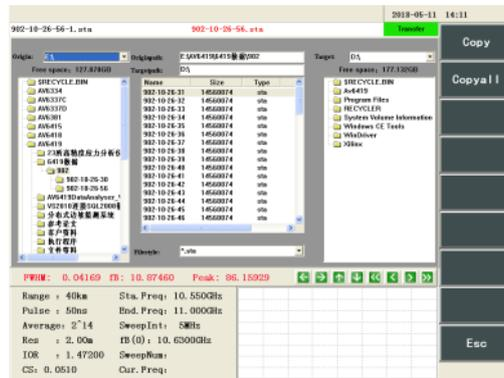

Figure 8-25 File transfer interface
Step 1: Click [File] → [Transfer] on the main interface to enter the interface as shown in Figure 8-25.
Step 2: In the file transfer interface of Figure 8-25, select the source index disk, select the folder and file type, and select the file to be transferred.